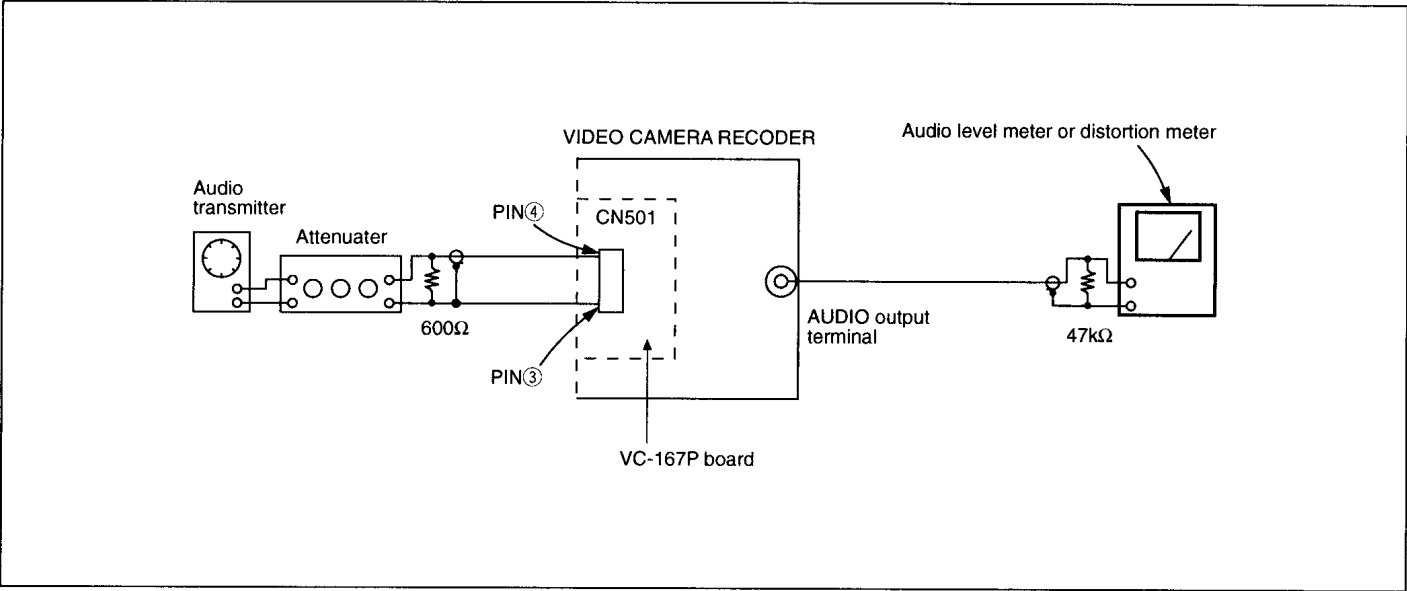

Fig.6-4-1
- Connect an audio input signal from VC-167P board CN501 as shown in Fig.6-4-1.